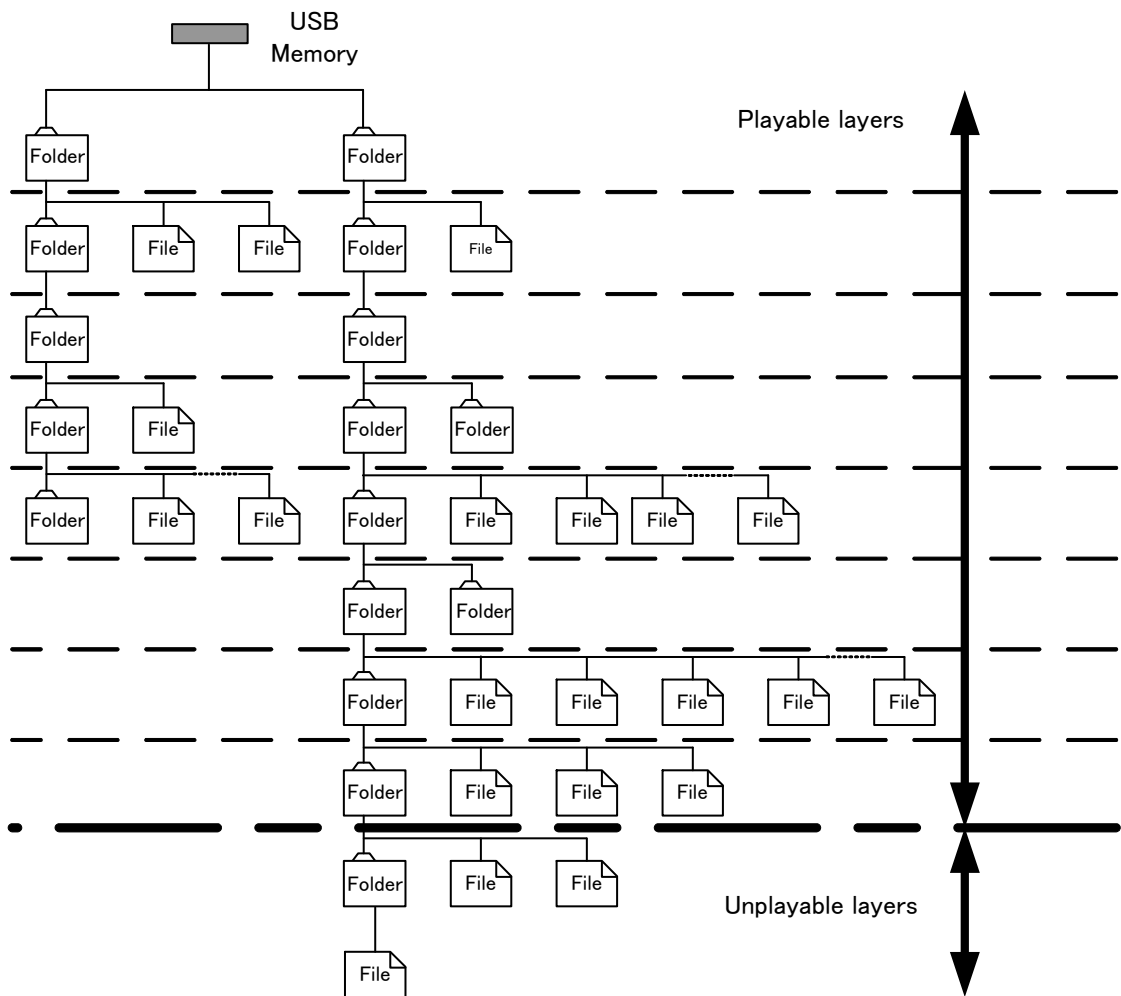

Figure VI.1.1 Example of Memory Layers
- The searchable folder hierarchy is of 8 layers containing the root folder. Figure VI.1.1 shows an example of memory layers.